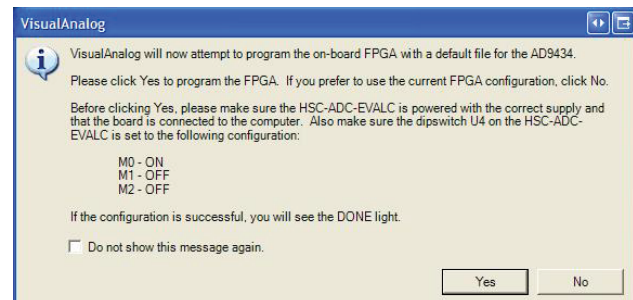

Figure 6. VisualAnalog Default Configuration Message
2. After the template is selected, a message appears asking if the default configuration can be used to program the FPGA (see Figure 6). Click **Yes**, and the window closes.